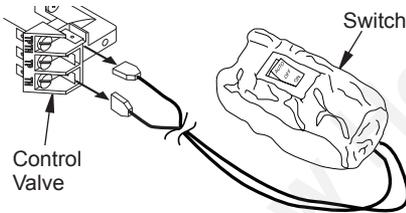

Figure 19 - Disconnecting Switch from Control Valve (Remote Ready Models Only)
6. If installed, disconnect AUTO/OFF/ON switch wire from control valve at TPTH and TH locations (see Figure 19).
7. Connect wires from hardware pack (with remote receiver bracket) to control valve at the TPTH and TH locations as shown in Figure 19. Connect other ends of these wires to remote receiver wires.